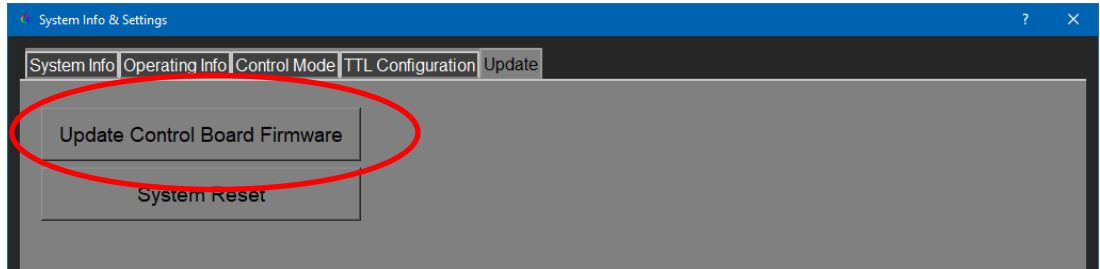

Figure 28: Update Control Board Firmware
7. In the “System Info & Settings” window, select the “Update” tab and select “Update Control Board Firmware”, (Figure 28).